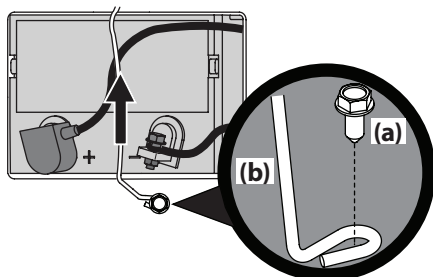

Figure 4-11
1. Remove the hex washer screw (a) securing the battery hold-down bracket (b) to the frame. Then flip the battery hold-down bracket (b) up to free the battery. See Figure 4-11.